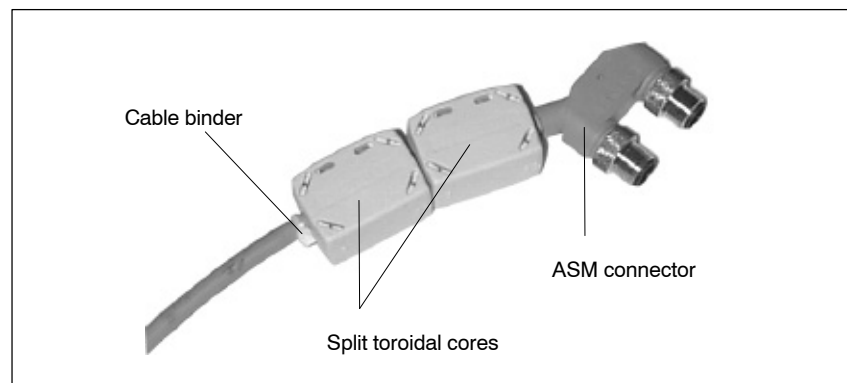

Figure 5-33 ASM 450 connecting cables with split toroidal cores (example)
2. Secure the ferrite shells using a cable binder to prevent them slipping (see Figure 5-33)